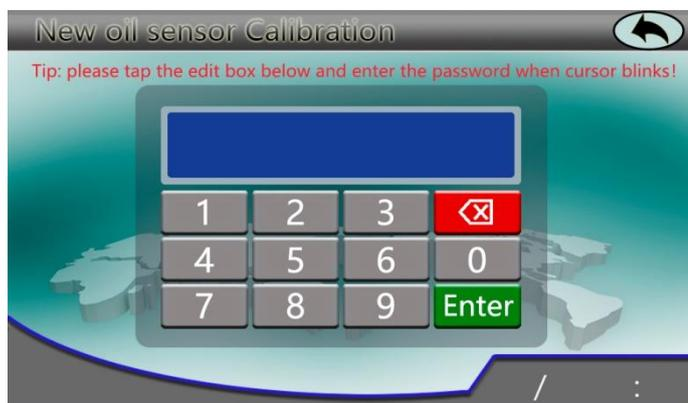
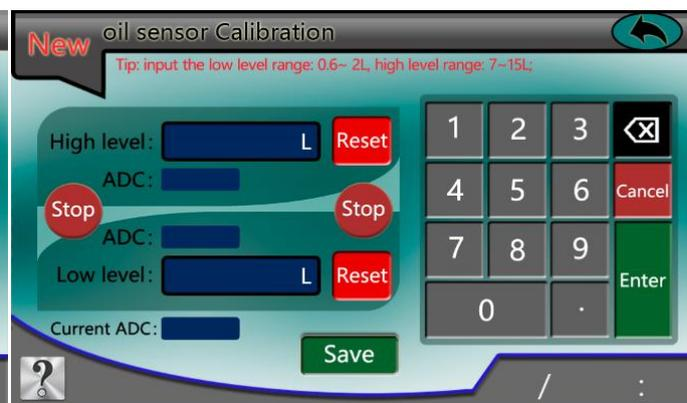

Fig. 34
Fig. 35
11.3 Tap the edit box and enter '654321', press 'Enter' as confirm (Fig. 34&Fig. 35).